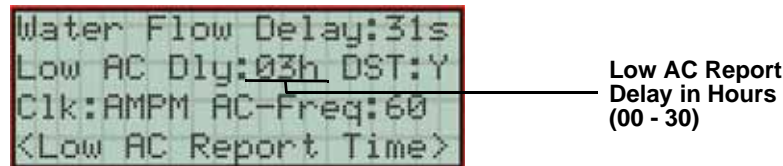

Figure 7-17 Low AC Report Delay Programming Screen
7. Enter the number of hours before a low AC report will be sent to the central station, then press . Refer to Figure 7-17.